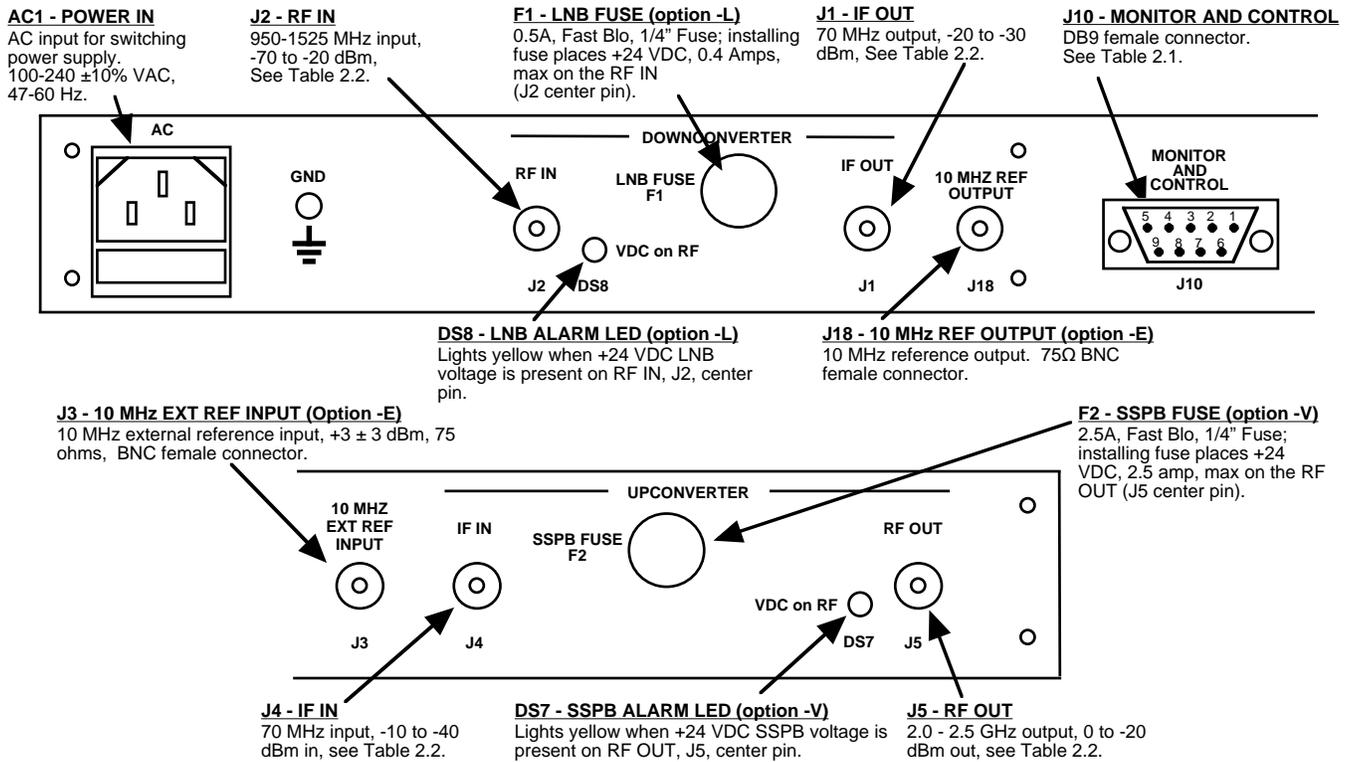

Figure 2.1 Model 2017-36 Rear Panel I/O's
2.2 Rear Panel Input/Output Signals and Control - Figure 2.1 shows the input and output connectors on the rear panel.
- 1.) Connect a -10 dBm to -40 dBm signal to IF In, J4 (Figure 2.1).
- 1.) Connect a -70 dBm to -20 dBm signal to RF In, J2 (Figure 2.1).